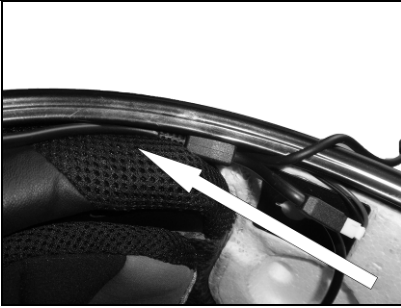

Fig. 21
- Position the battery connector and wiring underneath the shell gasket (Fig. 21).